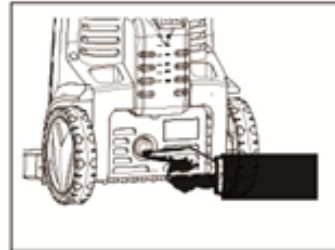

Fig 5
- Using included tip cleaner, or an unfolded paper clip, insert wire into the nozzle hole and move back and forth until debris is dislodged. (See Figure 5.)
The water inlet filter must be inspected regularly, so as to avoid blockage and restriction in the water supply to the pump (fig 5)